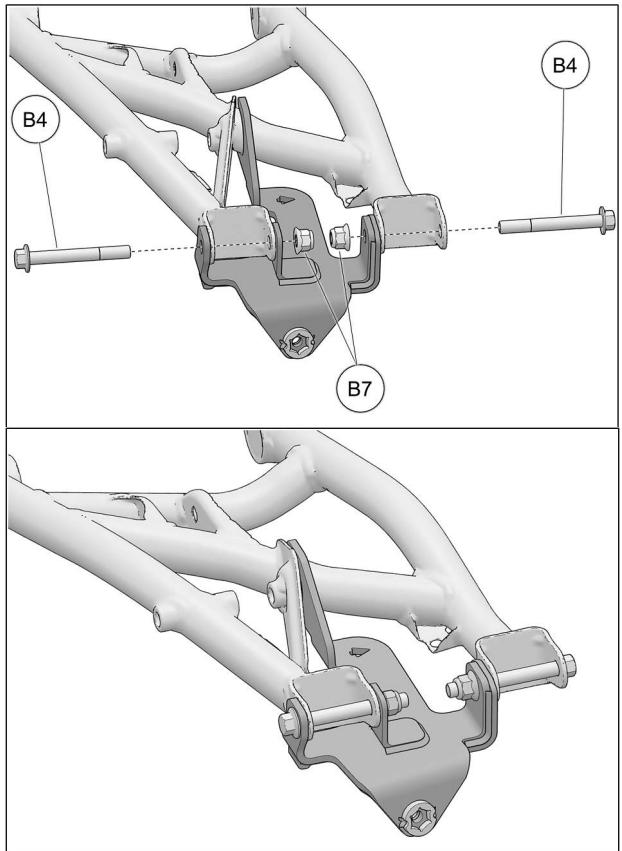

Fig. 7
7. Insert the new M12x100mm bolts (**B4**) in the anchor bracket, through the lower suspension arm and wheel hub. Secure assembly using the new M12 nuts (**B7**) provided. Tighten bolts to 125 Nm [92 lb•ft]. See Fig. 7